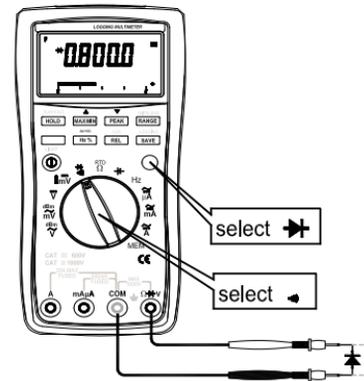

Figure 3-7. Diode Test
*Testing Diodes(See Figure 3-7)*